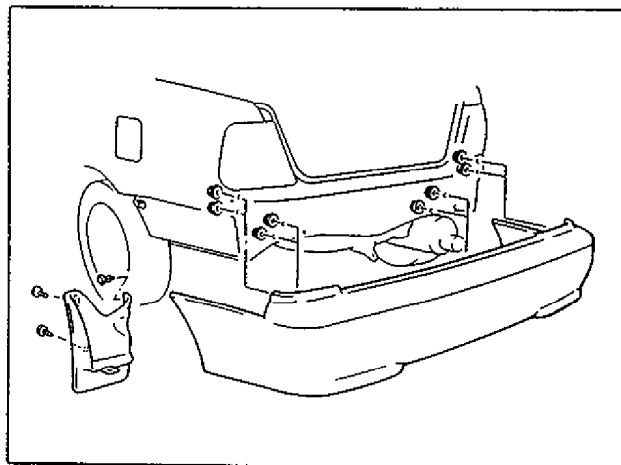

Fig. 2-4
- 2) Remove bumper fitting nuts shown in Fig. 2-4.